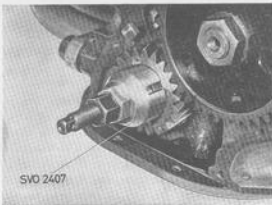

Fig. 2-52. Fitting crankshaft gear
6. Fit the crankshaft gear by using tool 2407 and the camshaft gear by using 2408, see Figs. 2-52 and 2-53. Fit the hub on the crankshaft. Do not push the camshaft backwards so that the seal washer on the rear end loosens.